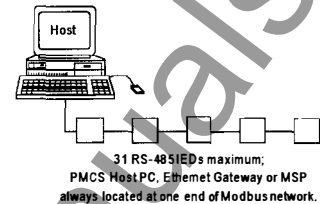

Figure 7. Network illustrating Modbus Rules 1 and 2.
1. Each RS-485 network may support up to 31 Modbus IEDs. Figure 7 illustrates this rule. (See the exception below Figure 6.)
2. The host (or Ethernet Gateway) must always be located at one end of any Modbus segment. It may not be located in the center of a Modbus network. Figure 7 shows the correct placement of the host (PC or Ethernet Gateway).